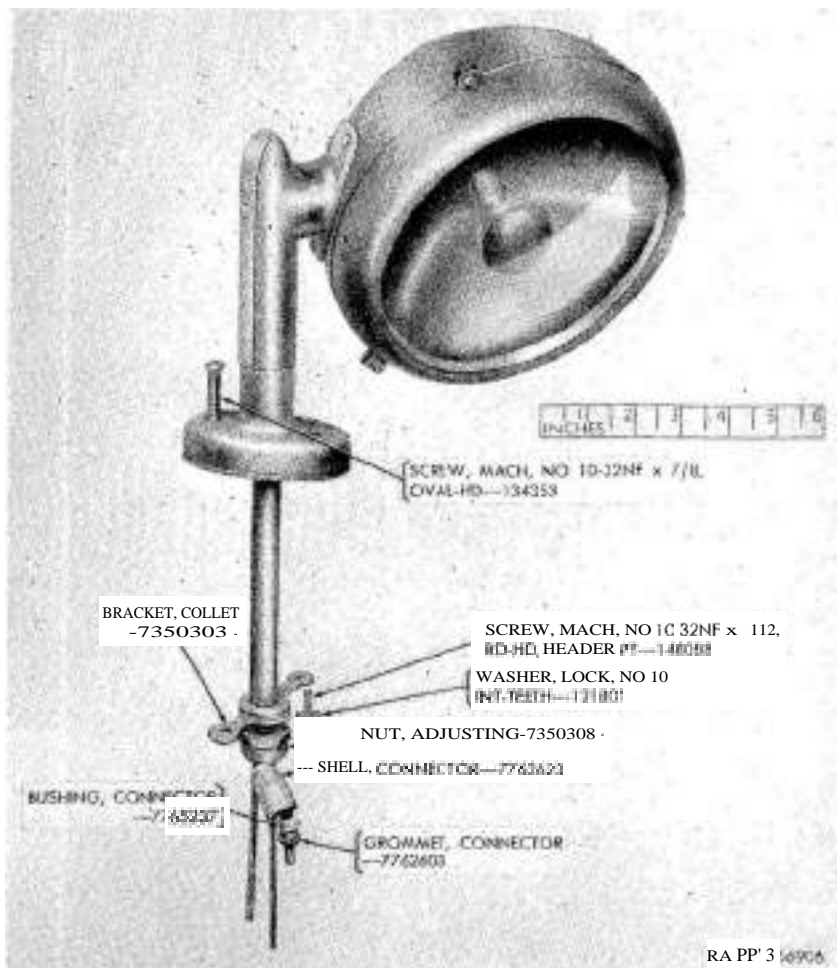

Figure 234. Bracket, collet, adjusting nut, and connector parts.
- (5) Remove connector grommet, connector bushing, and connector shell (fig. 234) from arm and tube cable.
d. Remove Adjusting Nut, Collet Bracket, and Screws from Outside Mounting Bracket (fig. 234).
- (1) Remove adjusting nut from collet bracket.
- (2) Remove two lock washers and screws. This will release
- (1) Inspect collet bracket (fig. 234) for distortion, cracks, or damaged threads. Replace collet bracket if any of these conditions exist.
- (2) Inspect adjusting nut (fig. 234) for distortion or damaged threads. Replace nut if any of these conditions exist.
- (1) Position spot light assembly on roof and install two No. 10-32NF x $\frac{7}{8}$ oval-head machine screws (*fig. 234*). Tighten screws.
- (2) Position collet bracket over lower end of tube and attach bracket to roof inside front center panel with two No. 10 internal-teeth lock washers and No. 10-32NF x $\frac{1}{2}$ round-head header-point machine screws. Tighten screws.
- (3) Install adjusting nut on collet bracket, but do not tighten nut.